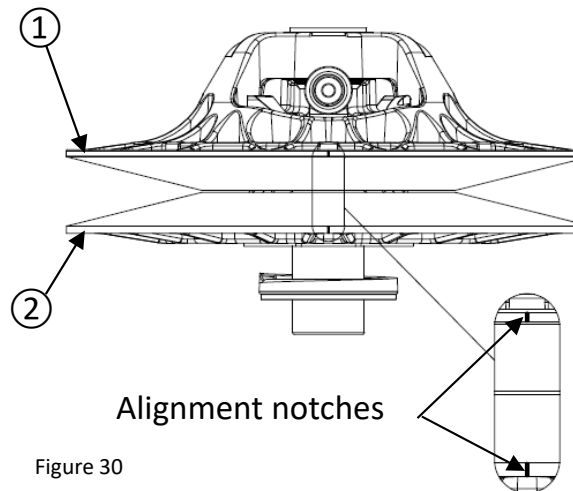
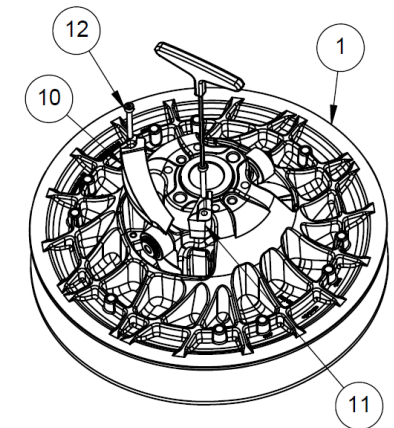

Figure 30
Figure 31
- Insert the sliding sheave ② on the fixed sheave ① and make sure that the alignment notches are aligned (see figure 30).
- Insert the 2 forward ramps ⑩ and the 2 rear ramps ⑪ in the fixed sheave ①.
- Torque the 4 screws ⑫ to 3,5 Nm (see figure 31).